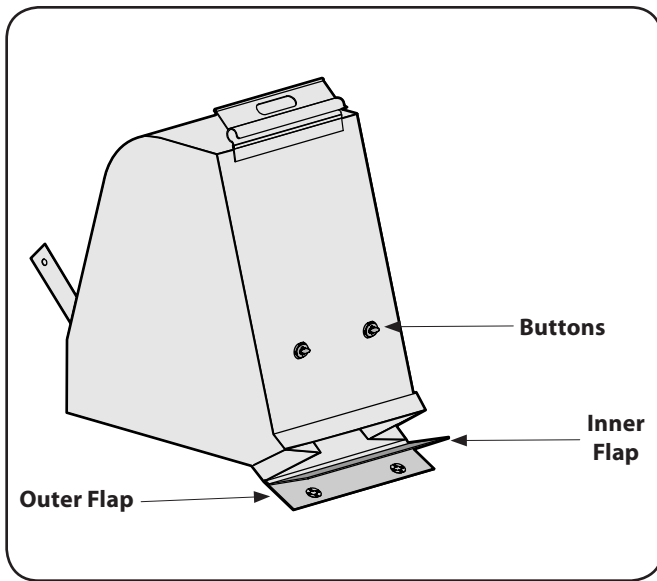

Figure 5-3
5. Twist the two buttons on the back of the bag to unlock and empty contents. See Fig. 5-3. Hold bag handle and bag clip while emptying the contents.
7. Fold outer flap over inner flap and insert buttons on the bag through metal outlets. See Fig. 5-3.